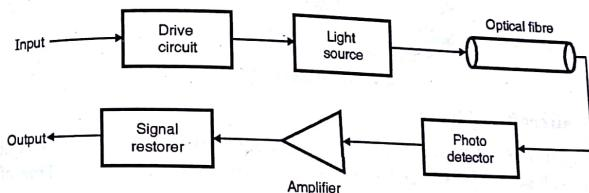

Fig. 5.10.1
- The fibre optical communications system is very much similar to that of a traditional communication system. Fig. 5.10.1 shows optical fibre generated by a LED or a laser diode.